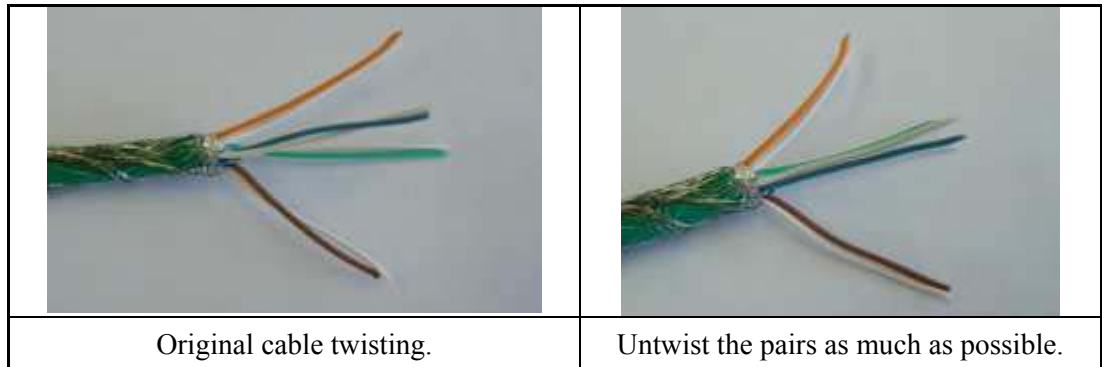

Figure D-10: Cable Positioning - Untwist Pairs
- While firmly holding the cable jacket next to the stripped end, untwist the pairs as much as possible as shown in Figure D-10.